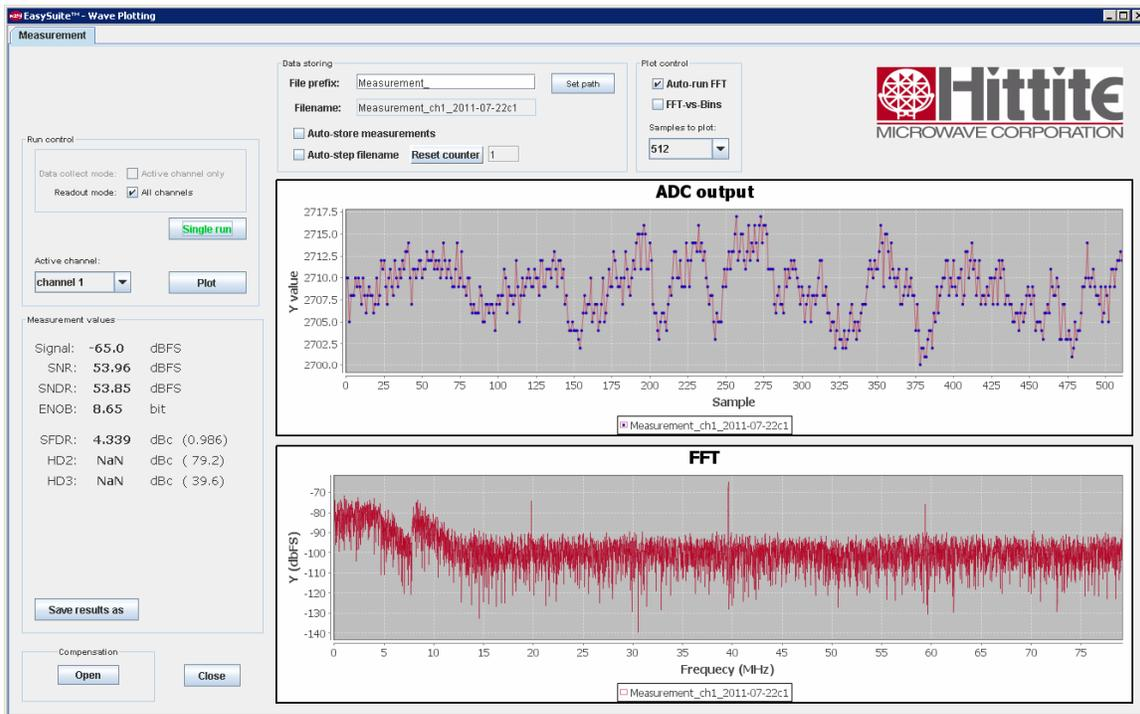

Figure 31. EasySuite showing the results of reduced bandwidth setting (5 MHz). A Signal of bandwidth 3.84 MHz is centered at 10 MHz.
- The effect of reducing the filter bandwidth is shown in Figure 31. Clearly the noise in the passband (5 MHz) has been amplified, and the signal centered at 10 MHz has been attenuated by approximately 35 to 40 dB.